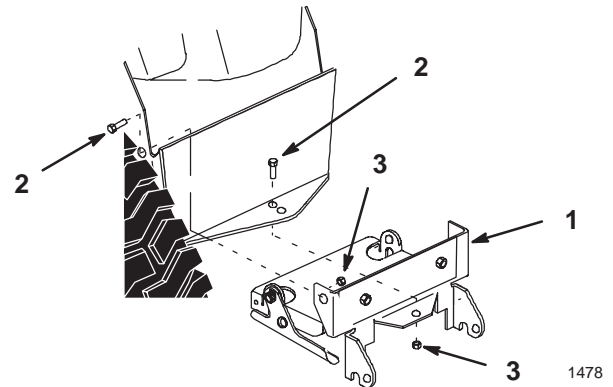

Figure 6
1. Install the rear mounting plate\blade bracket assembly under and inside the rear frame member with the short tongue rearward (Fig. 6), securing it with three 1/2 x 1-1/4 in. bolts and 1/2 in. locknuts in the holes in frame side members and the tractor hitch forward hole (Fig. 6).